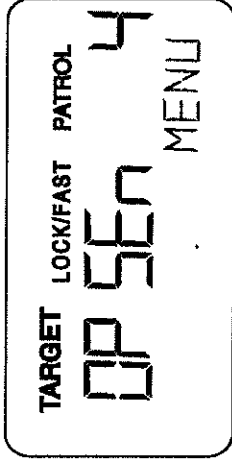

Fig. 3
The Opposite Lane sensitivity of **STALKER II** is adjusted by pressing the **MENU** key a second time. The **▲** and **▼** keys then cycle through the five (5) sensitivity levels: **5En 0**, **5En 1**, **5En 2**, **5En 3**, and **5En 4** (Fig. 3 shows sensitivity level 4, the factory default setting). In each case, the right-hand display refers to the current sensitivity setting. Sensitivity varies from **5En 0** (0 range) to **5En 4** (maximum range).